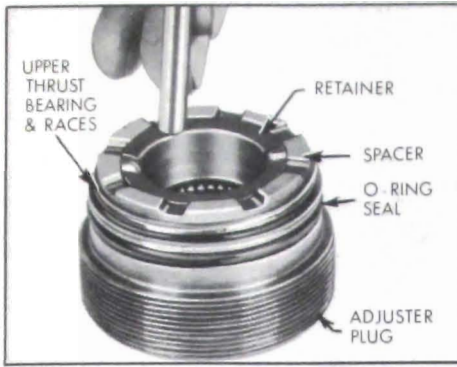

Figure 8-47—Installing Upper Thrust Bearing Retainer
3. Lubricate new adjuster' plug O-ring seal with petroleum jelly and install on adjuster plug. Assemble large O.D. thrust bearing race with internal flange up on adjuster plug, then thrust bearing, thrust bearing race (1 3/8" I.D. x 1 15/16" O.D.) and thrust bearing spacer on adjuster plug. Install new thrust bearing retainer into needle bearing bore using punch, being careful not to damage spacer. See Figure 8-47. Radial location of dimples on retainer is not important. Thrust bearing assembly and spacer must